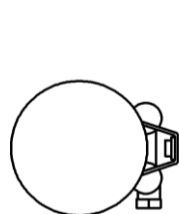

FIGURE 2
5. Install the stock O₂ sensor into the O₂ sensor bung on the supplied rear headpipe/muffler assembly, tighten it securely. Slide the supplied 27-61MSC clamp onto the flared muffler inlet. Refer to Figure 2 for alignment.